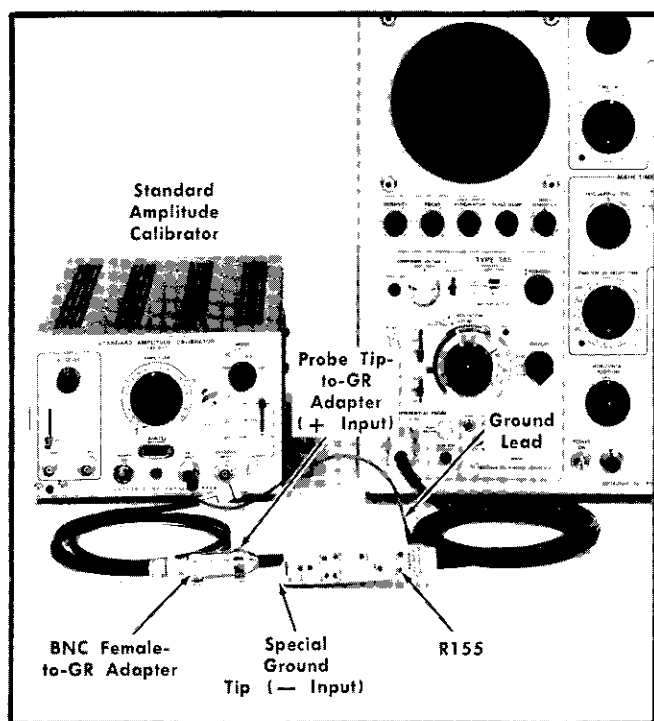

Fig. 6-7. Equipment setup for gain adjustment, step 4.
- The preliminary control settings apply. The equipment setup and adjustment location appear in Fig. 6-7.
- ADJUST—Gain (R155, Fig. 6-7) for exactly 5 divisions (with the Type 1A5) or 4 divisions (with the Amplifier For P6046) amplitude between centers of the two traces. Adjust the vertical POSITION control as necessary for convenient measurement.